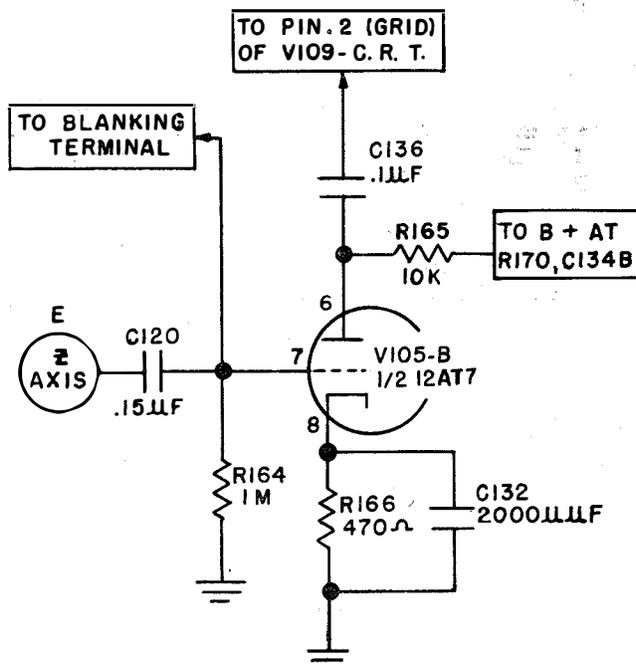

Figure 2-10. Intensity Modulation Amplifier
e. INTENSITY MODULATION AMPLIFIER. (See Figure 2-10)